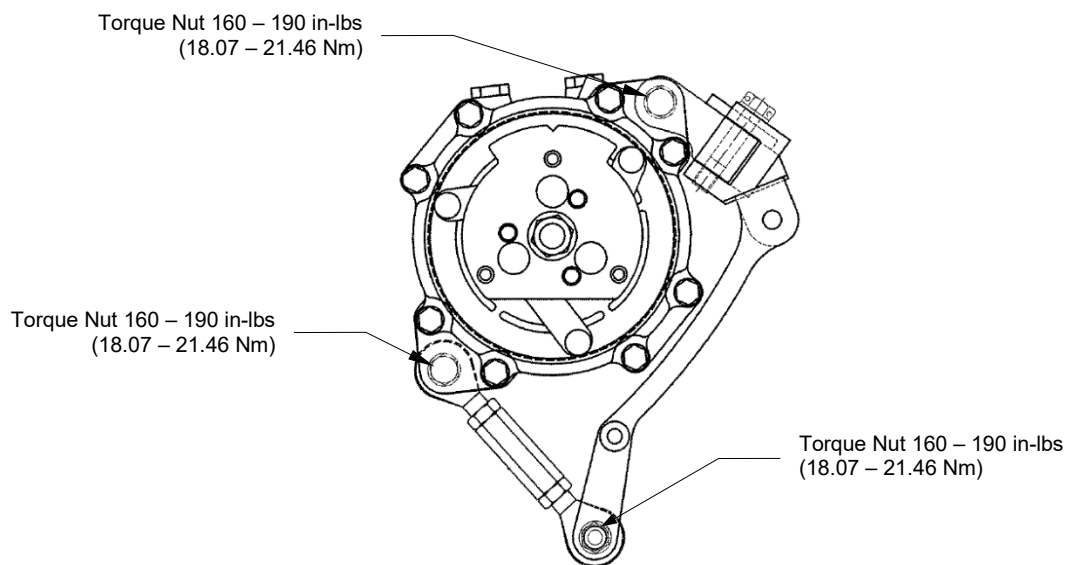

Figure 7-4 – Compressor Mount Fasteners Torque Values (Flat & Poly V Belt)
- c. Tighten and torque upper and lower compressor pivot bolt/nut and lower link assembly mounting bolt/nut on the compressor mount to torque values in Figure 7-4.
- d. Tighten and torque mounting bolts to torque values in Figure 7-4.